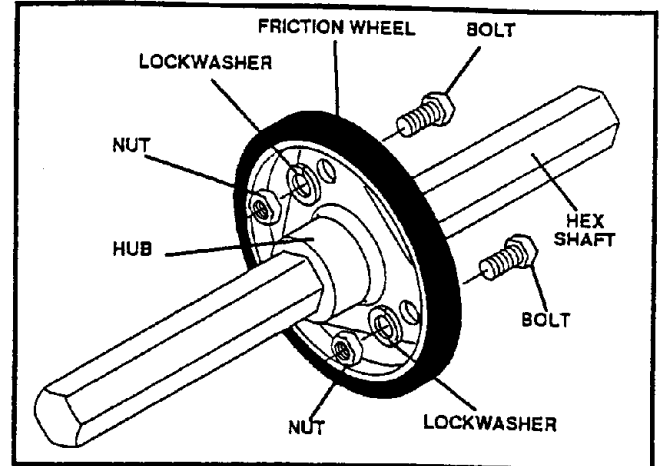

FIG. 14-SERV & ADJ
- Remove friction wheel from hub. Slip friction wheel off hex shaft towards right side (See FIG. 14-SERV & ADJ).